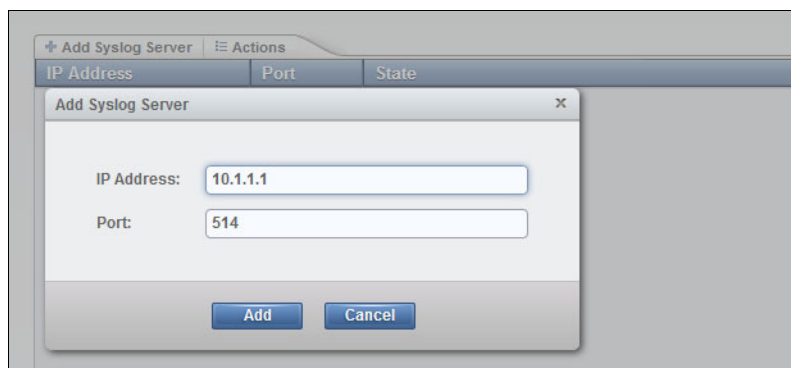

Figure 11-99 Notifications: Add Syslog Server
- a. The certificate authority (CA) certificate file.
6. Enter the following parameters as shown in Figure 11-99: